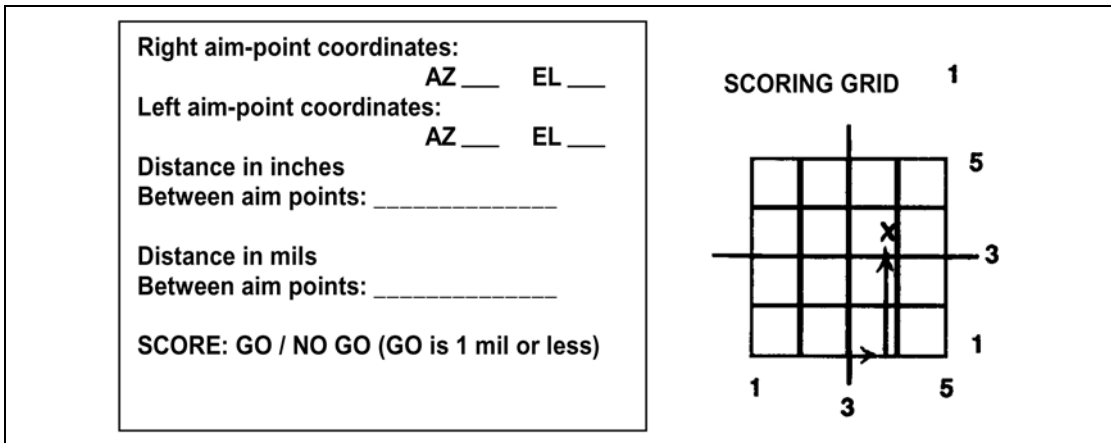

Figure B-18. Plotted aiming point.
(3) **Plotting Aiming Point on Scoring Grid.** Plot the aiming point on the scoring grid of the scoresheet. In this case, go right 3 3/4 mils and up 3 1/2 mils (Figure B-18). You and another tester can practice recording boresight aiming points with this technique by laying the 25-mm gun on different parts of the test panel. Practice observing and recording the AZ and EL coordinates for the same aiming point. You should be able to obtain AZ and EL readings to at least the nearest 1/4 mil. However, taking readings to the nearest 1/8 mil produces optimal testing results and aiming point accuracy.